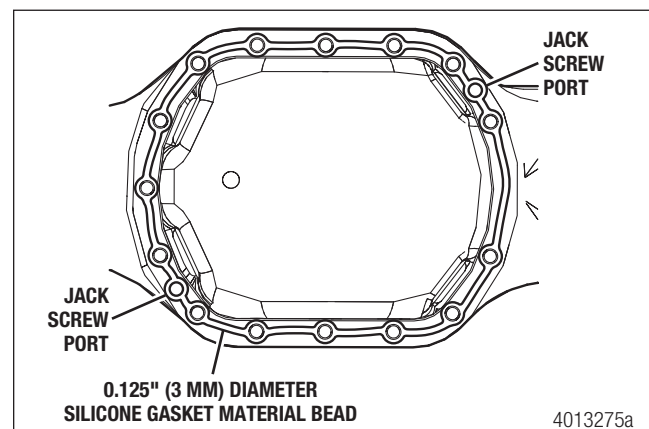

Figure 12.1
4. Apply a continuous bead of Loctite® 5699 gasket material to the mounting surface of the housing where the carrier fastens. Figure 12.1.